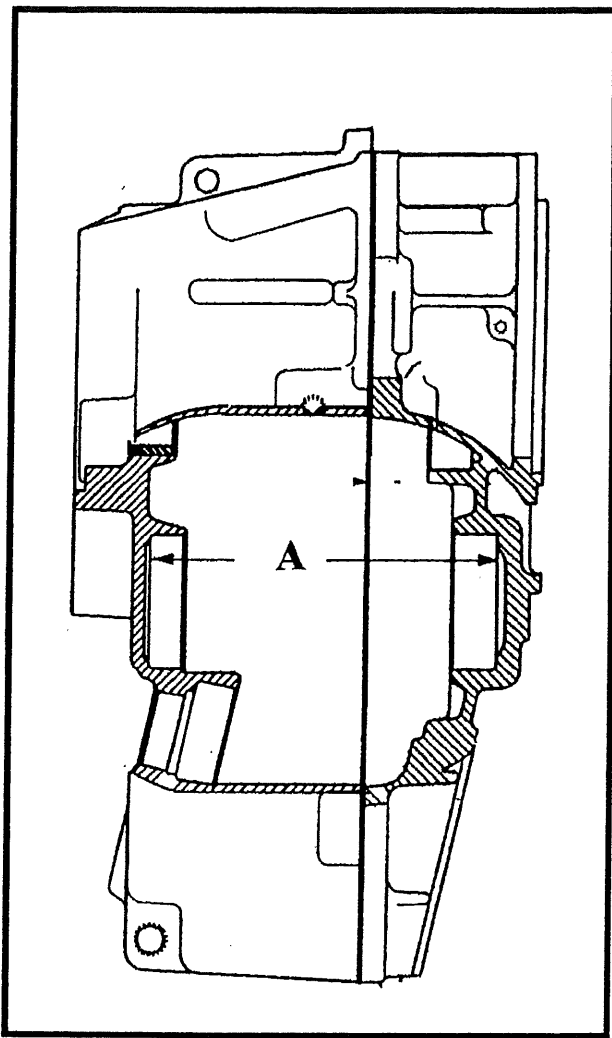

Figure 1-5. Assembled case and cover cutaway.
4. **Add measurements A1 and A2 determined in 2d and 3g above. This will be the total distance between the intermediate shaft bearing seats in an assembled case and cover (figure 1-5) This is measurement "A".**
5. Press the two bearing cones (139 & 141) on the intermediate shaft (140), place cups